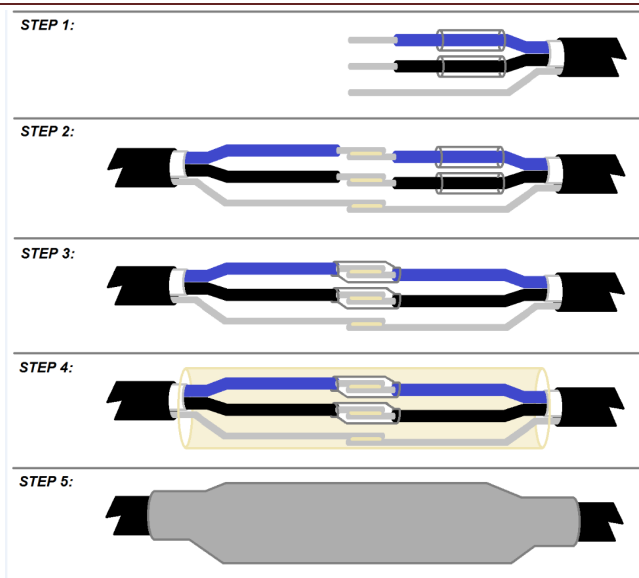

Figure 134 - Ultrasonic Cable Splicing Process Steps
- The sensors are supplied with a 60 foot (18.3m) long cable. If the cable is not long enough to reach the Bay Control Panel, the cable may be lengthened up to a maximum of 120 feet of total length. When doing this, the following process must be followed **exactly** to ensure proper function of the ultrasonic sensors. See Figure 134 for a diagram showing the process below.